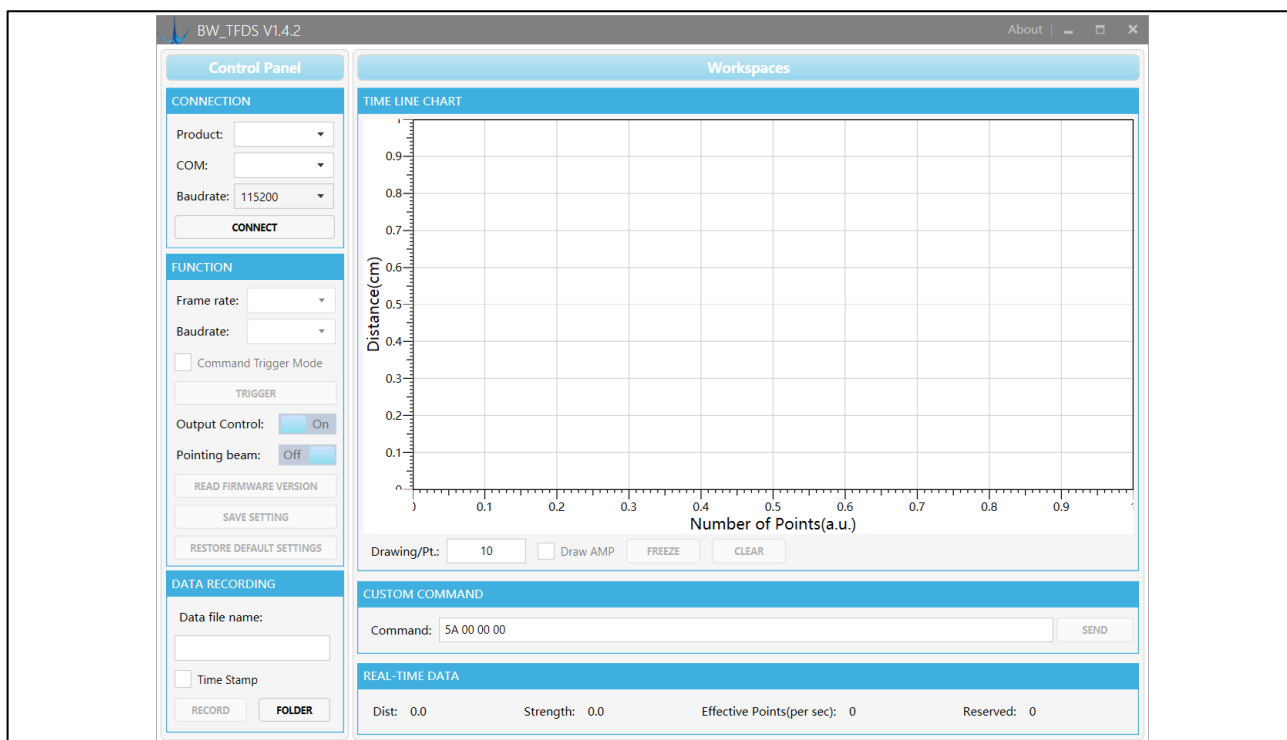

Figure 15 GUI of TF-UP01
- Run **BW_TFDS.exe**, choose the right baud rate and communication port, and click **CONNECT** to start the test. See *Figure 15 GUI of TF-UP01*. The GUI supports several commonly used functions, like changing baud rate, switching on/off pointing beam.